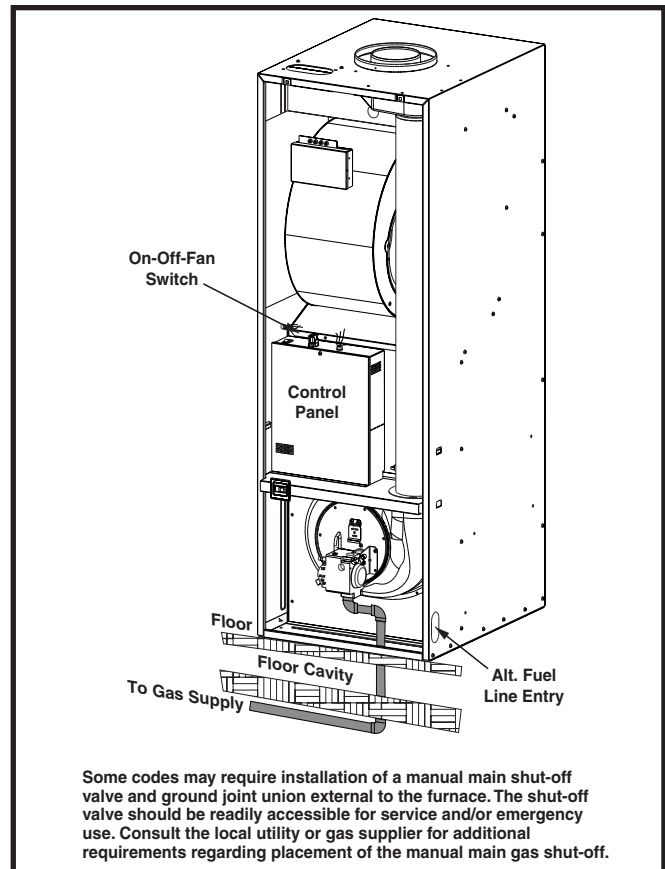

Figure 27. Typical Gas Piping
This furnace may be installed with left, right, or bottom gas entry. When connecting the gas supply, provide clearance between the gas supply line and the entry hole in the furnace casing to avoid unwanted noise and/or damage to the furnace. Typical gas service hookup for this furnace is shown in Figure 27.
- Some local regulations require the installation of a manual main shut-off valve and ground joint union external to the furnace. See Figure 27. The shut-off valve should be readily accessible for service and/or emergency use. Consult the local utility or gas supplier for additional requirements regarding placement of the manual main gas shut-off.
- Fuel line installations other than typical installations shown in Figure 27 must comply with the fuel piping provisions stated in the Federal Manufactured Home Standard (H.U.D. TITLE 24, PART 3280) and the National Fuel Gas Code (ANSI-Z223.1/NFPA-54).
- Plugged tappings (1/8" NPT) for test gauge connection are present on the gas valve. See Figure 27 for locations.
This furnace can be converted from factory-equipped natural gas to liquid propane gas. Conversion of this valve requires replacement of the burner orifice and flipping the regulator cap to the side marked LP. The orifice required for conversion is supplied with the furnace. See Figure 27.
6. Unscrew the pressure regulator cap and check for the letters NAT or LP. See Figure 27 \(page 17\).
1. Remove the inlet pressure plug from the INLET side of the gas valve with a 3/16 Allen wrench. See Figure 27.